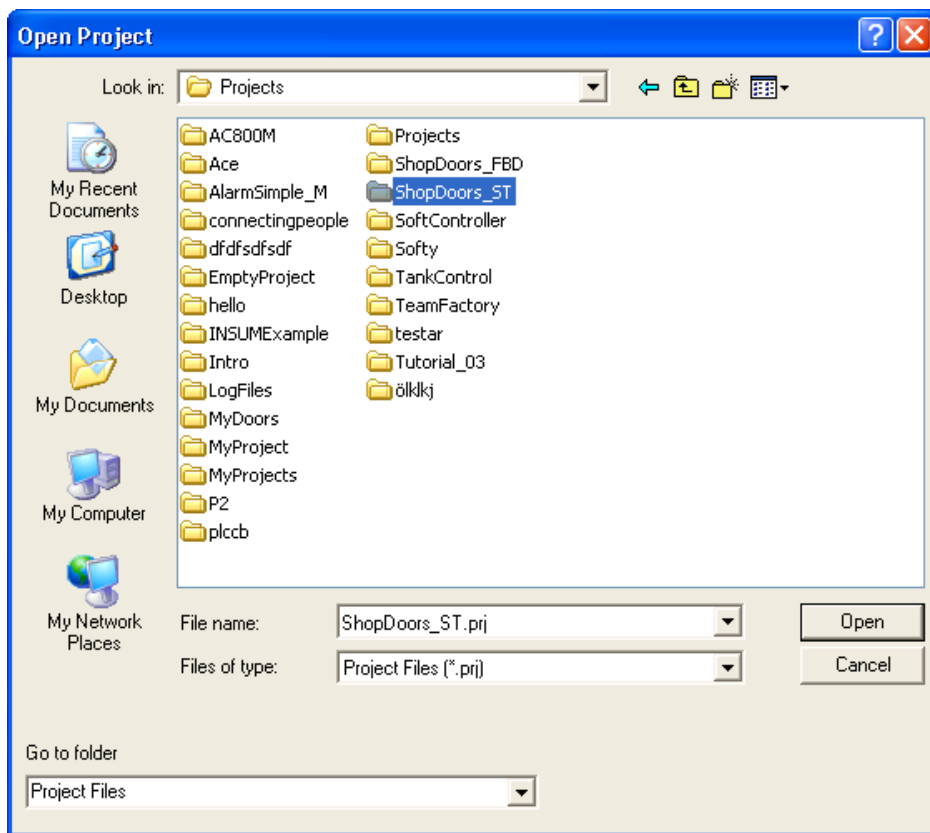

Figure 40. The Open project window.
1. From the Project Explorer, select **File > Open Project**. An Open Project window opens (Figure 40).